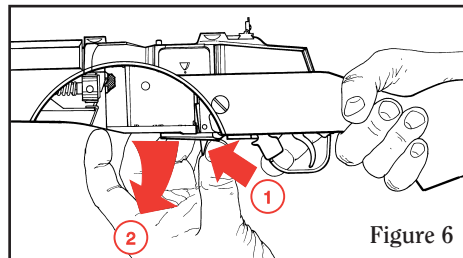

Figure 6
1. With the rifle pointing in a safe direction, safety "ON", remove the magazine by pushing catch forward to release magazine, while drawing magazine down and forward (See Fig. 6).